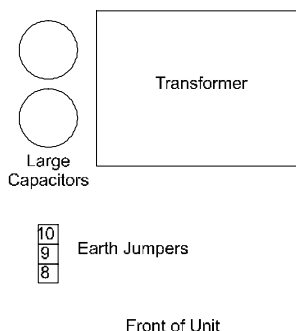

Figure 13 - Location of Earth Jumpers
- 3) Change the jumper settings as per the diagrams in the following sections. The location of the earth jumpers are shown in Figure 13. Do not operate the unit with the lid removed due to the mains voltages accessible within the unit.